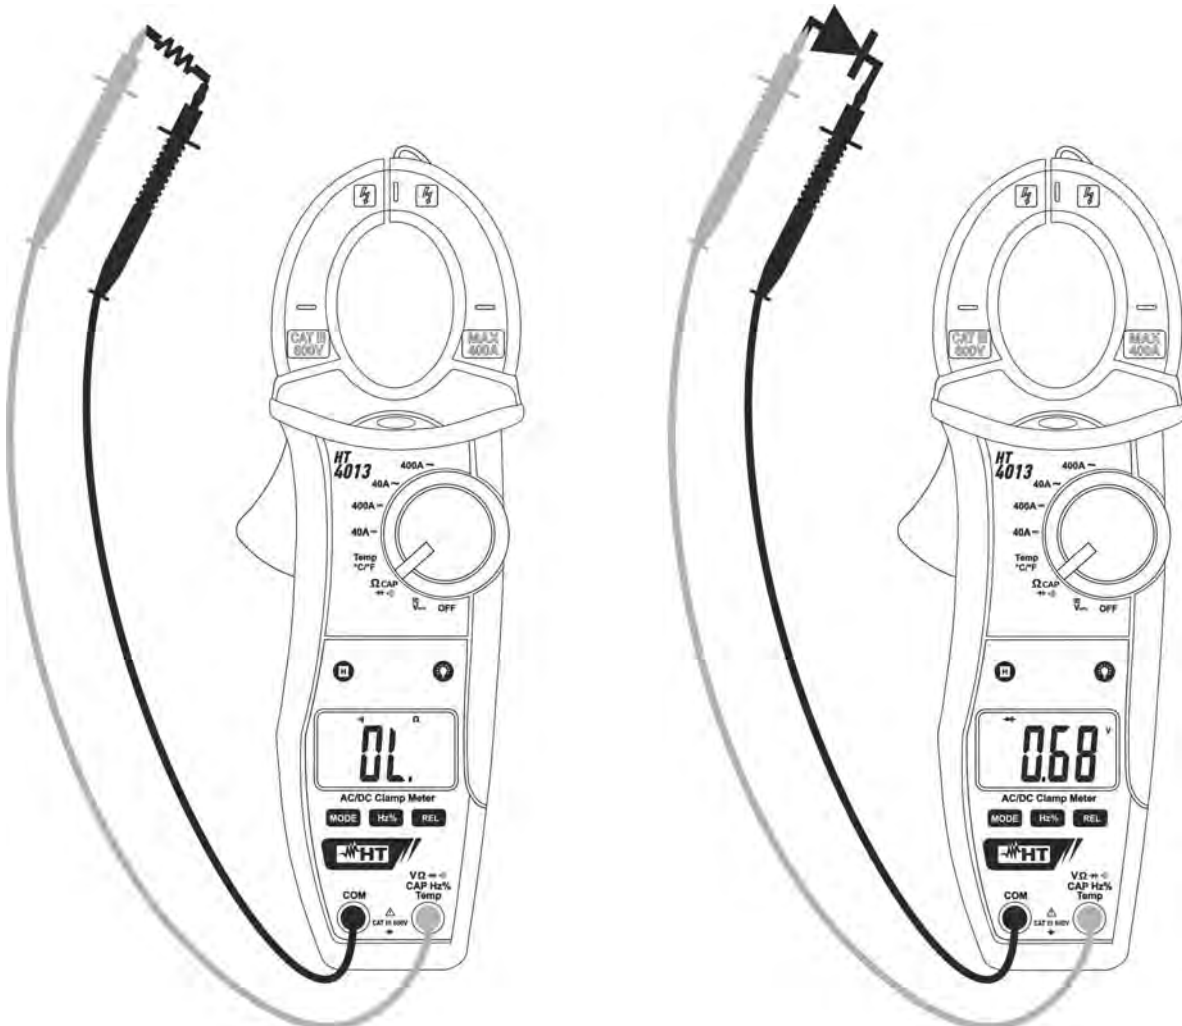

Fig. 7: Use of the clamp for continuity test and diode test
3. Insert the red cable into input terminal **VΩ▶(→)CAPHz%Temp** and the black cable into input terminal **COM** and carry out the continuity test of the object to be measured (see Fig. 7– left side). An buzzer sounds when the measured value of resistance is lower than 150Ω
5. Connect the red lead to the anode of the diode and the black lead to the cathode in case direct polarization measurement is carried out (see Fig. 7 – right side). Invert the position of the leads in case reverse polarization measurement is carried out.